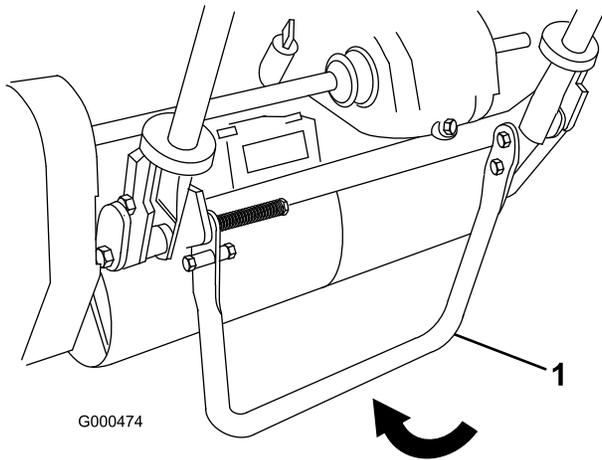

Figure 12
1. Push kick stand down with foot and pull up on handle support until kick stand has rotated forward, over center (Figure 12).